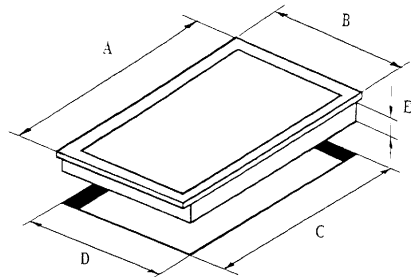

Fig.3.
- 4 Insert the appliance into the aperture and fix into position via the clamps & screws, tightening the screws evenly (see fig.3.)